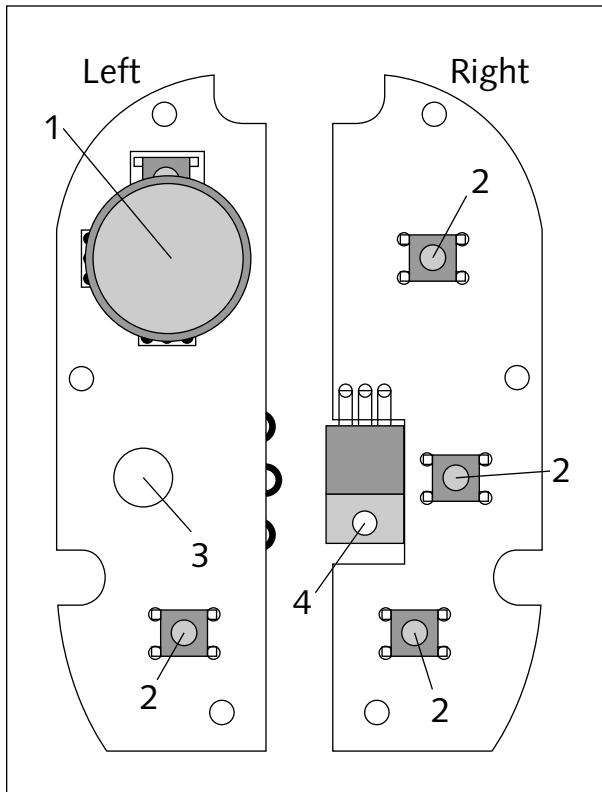

FIGURE 17-7: Parts placed on the front of the left and right control boards.
We'll start the wiring procedures with the *left and right control boards*. Figure 17-7 shows where to install the components on the front (colored side) of them.
- 4. Part 4** is the 7805 regulator. Insert it through the three holes on the right board and bend the leads up on the back to hold it partially in place. The flat portion of the regulator should face the rear (as shown in Figure 17-7).